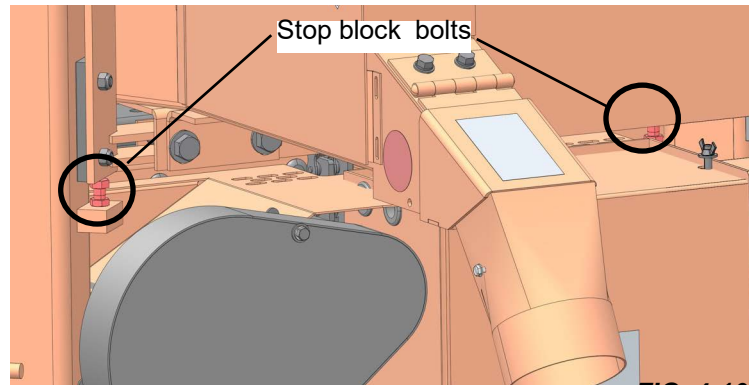

FIG. 4-10
CAUTION! It is important that the lower stop bolts are properly adjusted to secure the carriage on the track rail. Failure to properly adjust the stop bolts can cause saw head damage, especially during mill transportation. See FIG 4-10.
13. If necessary, adjust the stops located at the bottom of the mast so the saw head contacts them after it is lowered 3/4" (19mm) past where it contacts the rest pin. See FIG. 4-10.